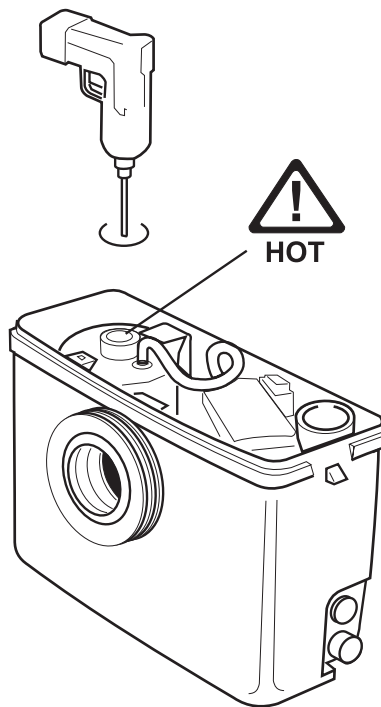

Fig. 12
- Use an electric drill to rotate the rotor shaft and clear any blockages. (See Fig 12)
- Using a screwdriver rotate the rotor shaft until the tank is empty. (See Fig. 12)